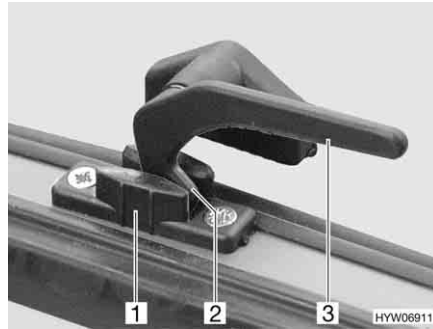
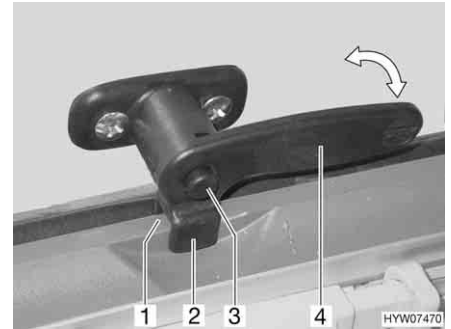

Fig. 77 Catch lever without safety knob in "continuous ventilation" position
Fig. 78 Catch lever with safety knob in "continuous ventilation" position
- "Continuous ventilation" (Fig. 77 or Fig. 78)
- If necessary, press the safety knob (Fig. 78,3) down and hold it.
- Turn the catch lever (Fig. 77,3 or Fig. 78,4) a quarter turn towards the centre of the window.
- Return catch lever to its initial position. Move the locking catch (Fig. 77,2) into the recess of the window catch (Fig. 77,1) or move the fork (Fig. 78,2) on the catch lever into the window catch (Fig. 78,1).